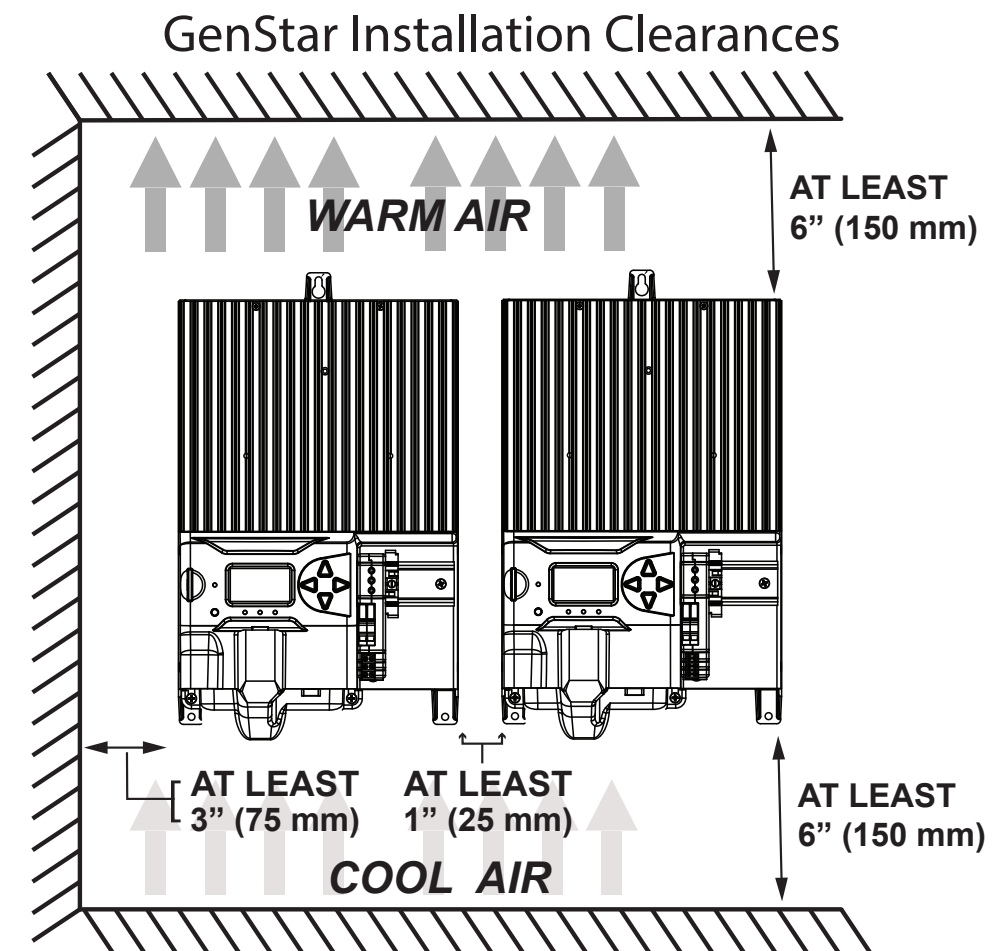

Figure 3-1. Required mounting clearance for proper air flow
3.2 Mounting - refer to Figures 3-1 and 3-2
B) Verify that there is at least 6" (150mm) of space above and below the unit, and at least 3" (75 mm) around the heatsink - see Figure 3-1.
B) Mark and drill (1)-1/8" (3.175 mm) hole in the top end (slot) of the template keyhole, and (2) lower holes for the frame holes.
B) Use the two remaining screws to secure the (2) unit lower frame holes flush with the wall.